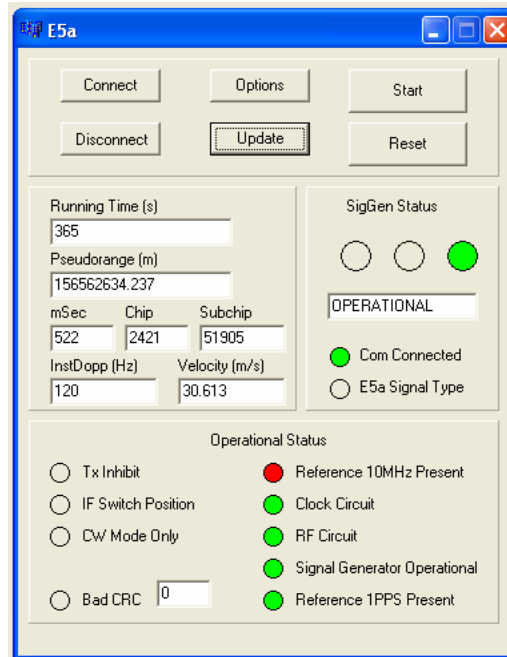

Figure 16: GTS Status
3. The instantaneous Doppler and resulting velocity is shown in *Figure 16* on *Page 45*: